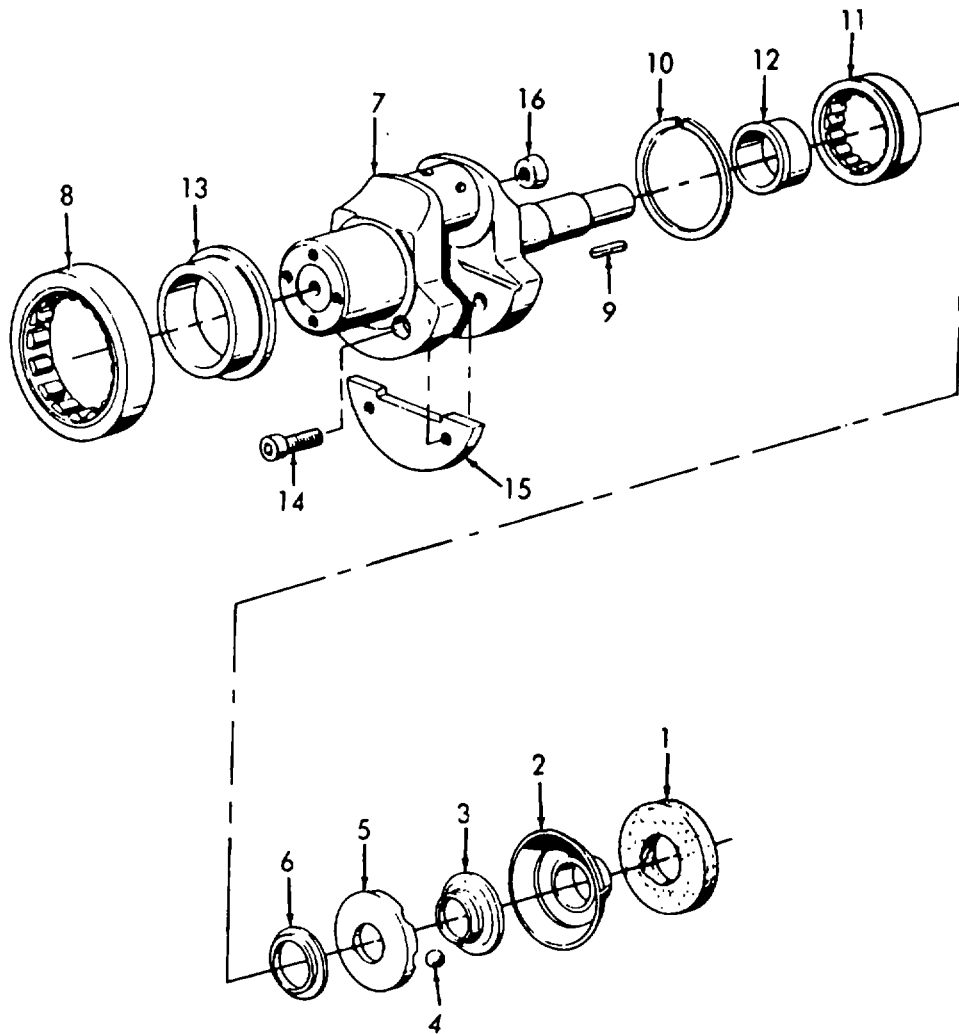

Figure 6-12. Crankshaft Removal.
Items (1) thru (6) of figure 6-12 are part of the governor, however, they must be removed with the crankshaft.
a. Removal. (Refer to figure 6-12).
- (1) Remove disc (1), shell (2), disc (3), four balls (4), hub (5), and spacer (6) from crankshaft.